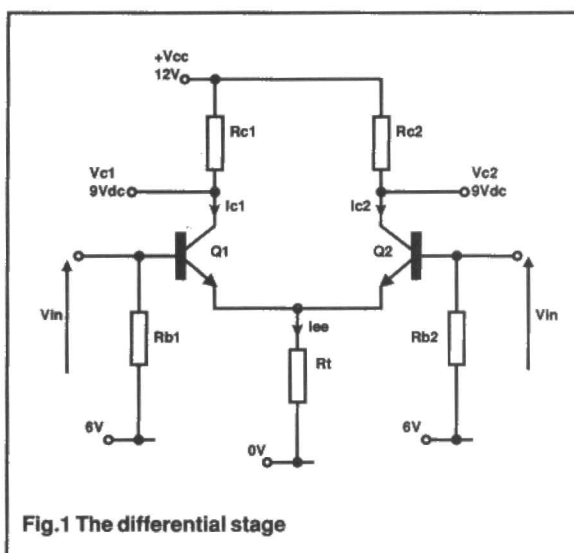

Fig.1 The differential stage
3. With the rectified 50 Hz sine wave fed to the comparator, the most power able to reach the lamps would be less than half since the gate pulse cannot advance any earlier than near the sine peak (follow the logic of Richard's Figure 3). A ramp or sawtooth synchronised to the mains is needed. RV1 was removed and replaced by my Figure 1, mounted on a small piece of stripboard above the original PCB.
Fig.1 Showing how low power digital signals can be inserted into the gaps in the spectrum between the existing BBC1, BBC2, Channel 3, and Channel 4 transmissions.
Figure 1 shows the basic idea of the input stage.